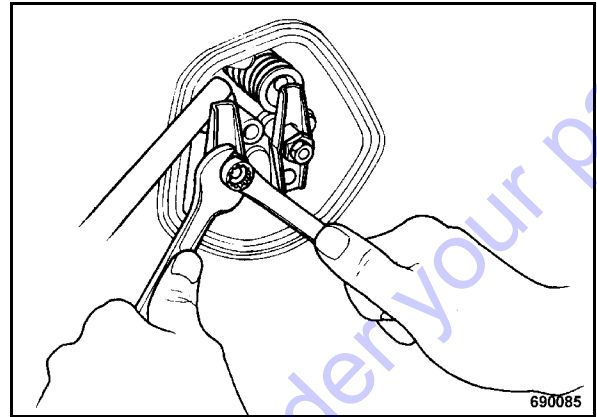

Fig. 53
- Check the valve clearance with a feeler gauge on both valves (1) (Fig. 53).